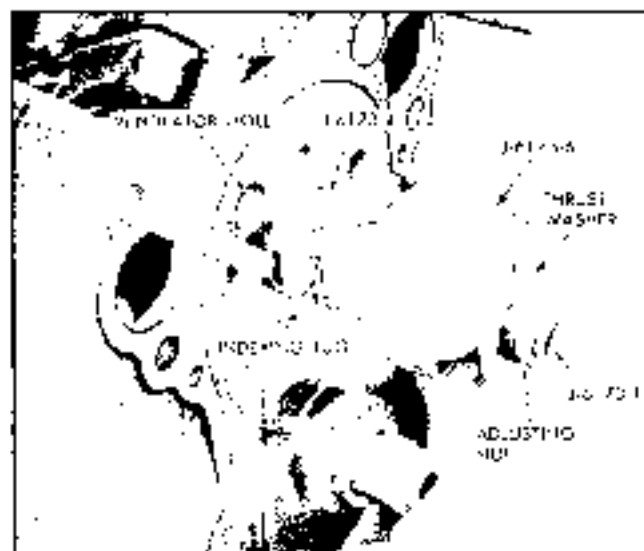

Fig. 6-97 Positioning Index Collar
1. Insert remover adapter J 6173-4 into front bearing to act as a support for shaft J 6173-1 (Fig. 6-97).
3. Place indexing collar J 6073-6 on threaded end of shaft with open side toward unthreaded end and start thrust washer and nut on shaft (Fig. 6-97).
4. Insert shaft and indexing collar through remover and replacer adapters and position lug on indexing collar in ventilator hole in front of block (Fig. 6-97). This indexes shaft so that it cannot rotate.
6. Insert shaft with indexing collar, thrust washer, and nut through remover, pilot and replacer adapters. Index lug on collar with ventilation hole in front of block (Fig. 6-97).